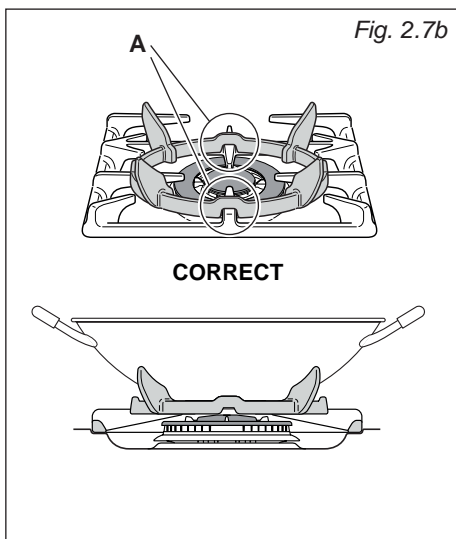

Fig. 2.7b
**WARNING:** The wok stand **MUST** be correctly placed as indicated in figure 2.7b; the bigger supporting areas "A" must be placed on the vertical prongs only (rear and front).
The special grille for wok pans (fig. 2.7b) **MUST BE PLACED ONLY** over the pan-rest for the double-ring compact and dual burner.